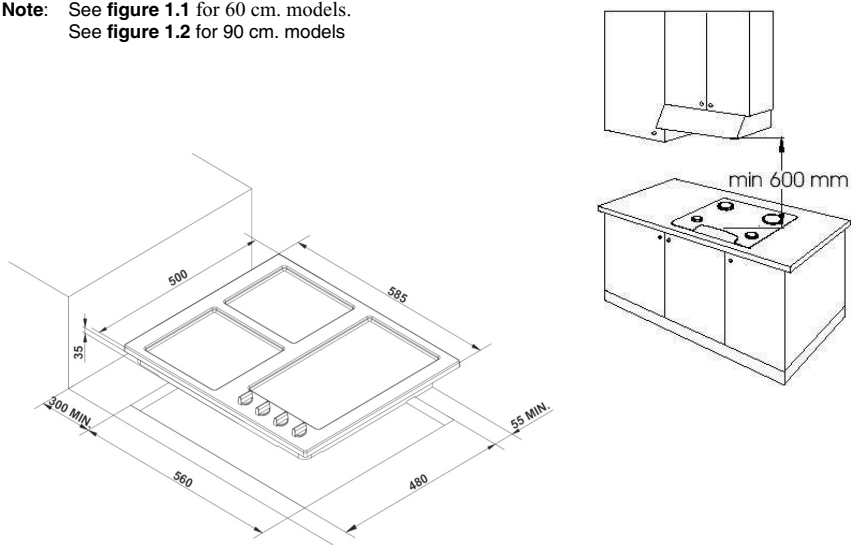

Figure 1.1.
Note: See **figure 1.1** for 60 cm. models.
- Position the special gasket supplied (C) along the outer perimeter of the worktop, following the scheme shown in **figure 1.1** or **1.2** above, so that the ends of the gasket meet exactly without overlapping.